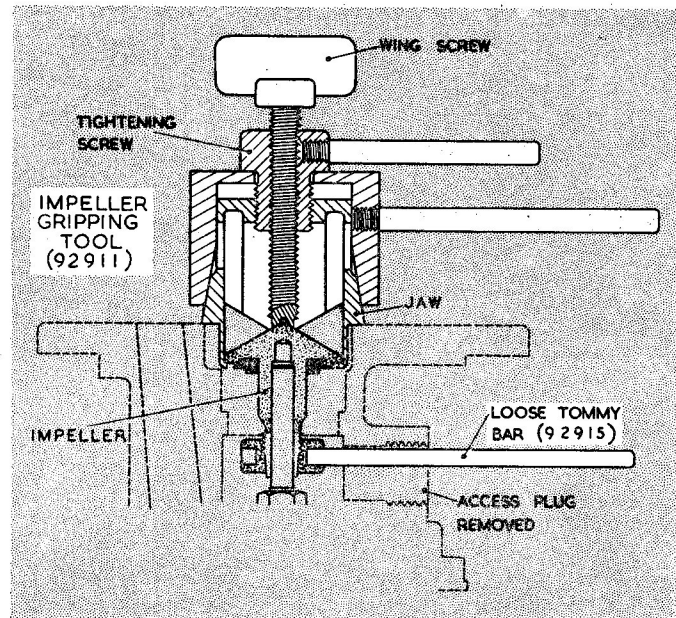

Fig. 2. Tool for gripping impeller
9. Remove the impeller access plug, turn the impeller with the fingers till one of the holes in the impeller nut may be seen through the access aperture and insert the end of the loose tommy bar, Part No. 92915 (fig. 2), into the hole in the impeller nut. Take the impeller gripping tool (Part No. 92911) in one hand and with the other hand hold the brass tightening screw by means of its short tommy bar until the jaws of the tool open sufficiently to pass over the impeller. Run the wing screw well back to ensure that it will not foul the end of the impeller and so prevent the tool being pushed right over the impeller. Push the tool over the impeller till it covers the blades and shroud and rotate the short tommy bar until the jaws of the tool close on the impeller. Then tighten the wing screw until the lip at the edge of the jaws engages on the back of the impeller. When